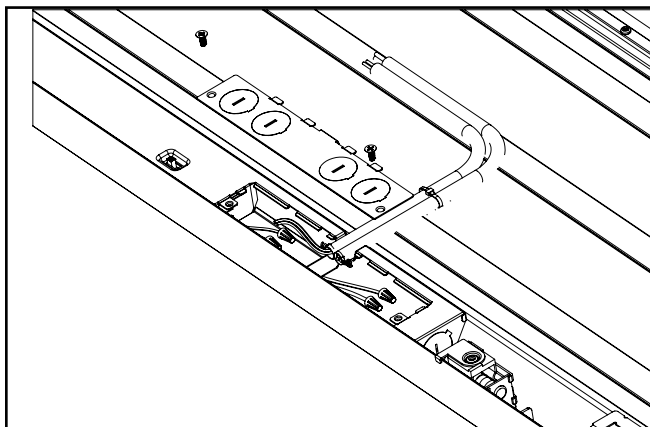

Figure 8.
4. Remove the two screws holding the access plate to the driver enclosure. See Fig.8